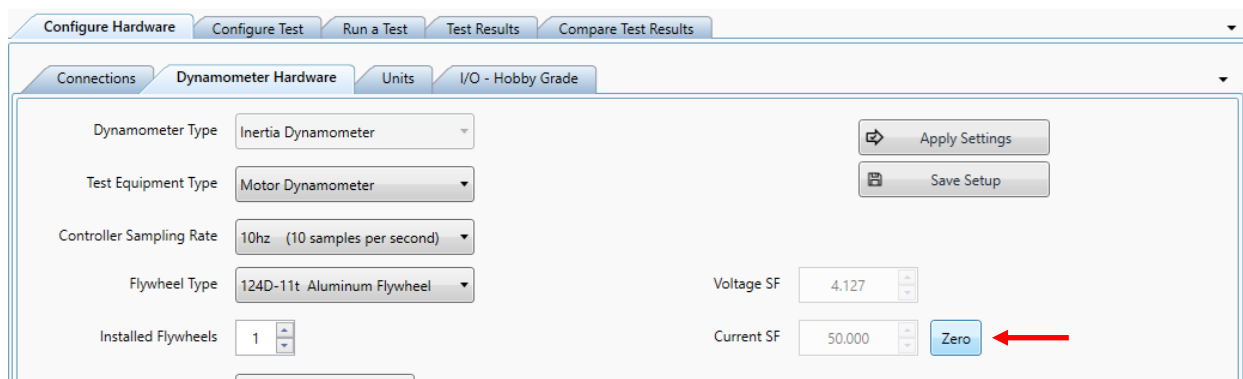

Figure 10: Current Sensor Calibration
8. Press the Zero button next to Current SF text box (see Figure 10).